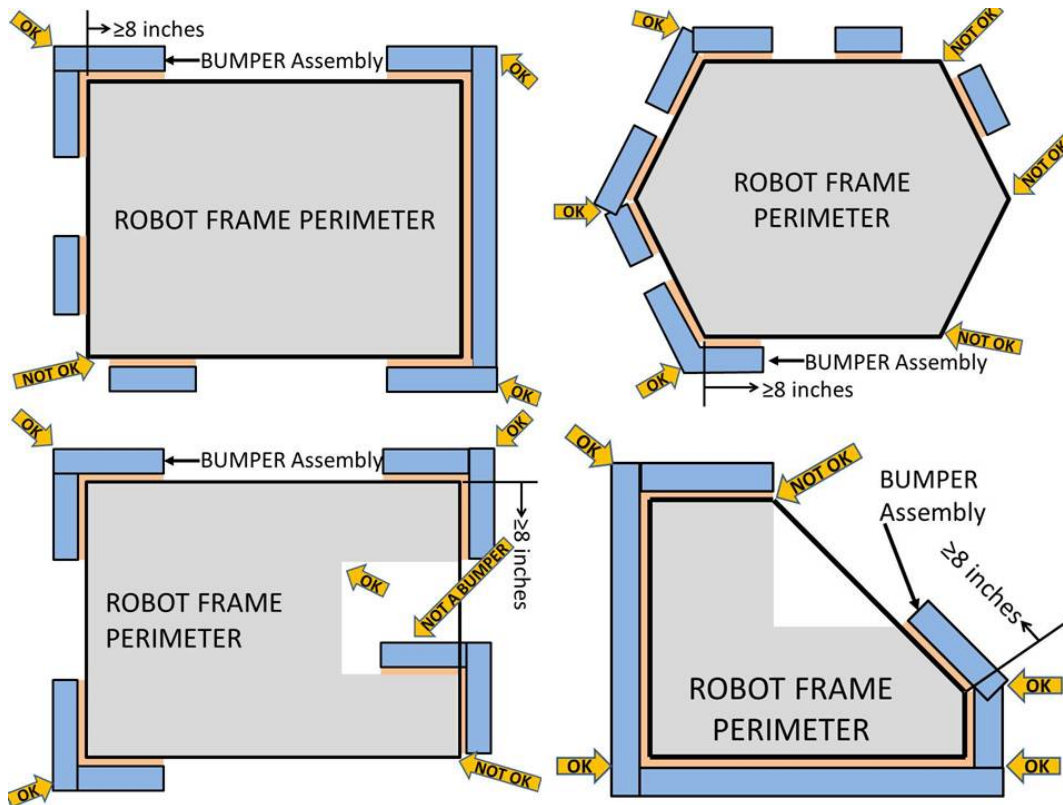
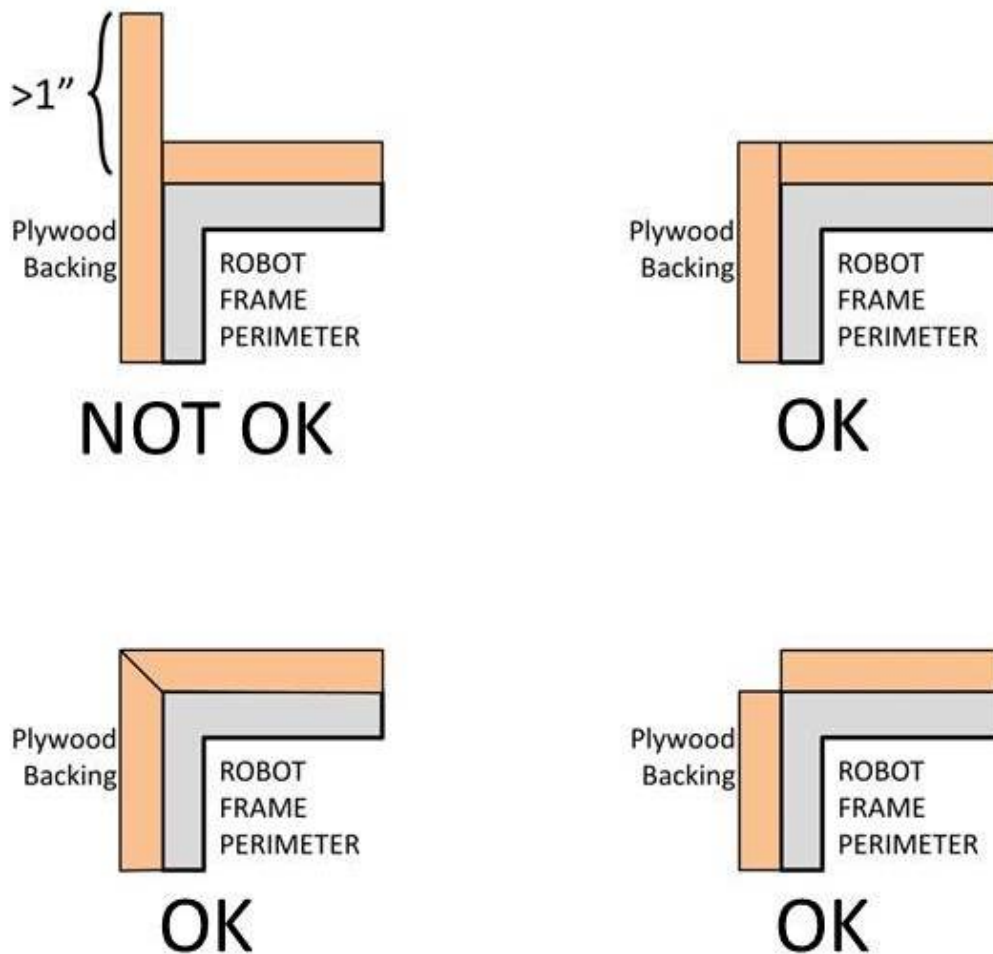
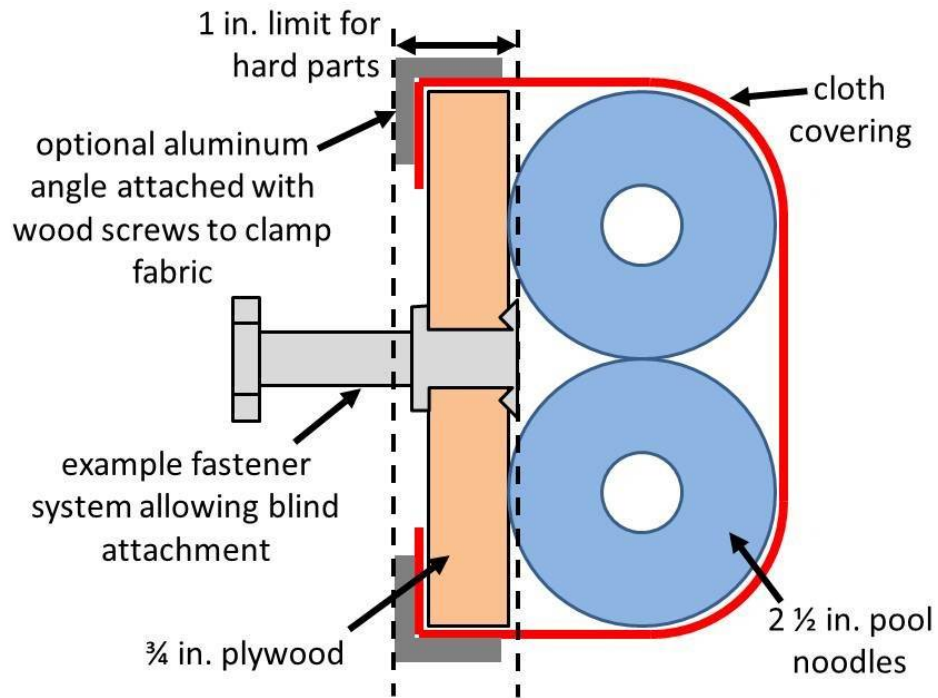

Figure 4-2: BUMPER Corner Examples
Figure 4-3: Hard Parts of BUMPER Corners
Figure 4-4: BUMPER Cross Section
ROBOTS are required to use BUMPERS to protect all outside corners of the FRAME PERIMETER. For adequate protection, at least 8 in. of BUMPER must be placed on each side of each outside corner (see Figure 4-2).
BUMPERS must be constructed as follows (see Figure 4-4):
B. hard BUMPER parts (e.g. plywood, fasteners, etc) may not extend more than 1 in. beyond the end of the FRAME PERIMETER (see Figure 4-3 and Figure 4-4).
- C. use a stacked pair of approximately 2 ½ in. round, petal, or hex “pool noodles” (solid or hollow) as the BUMPER cushion material (see Figure 4-4). Cushion material may extend up to 2 ½ in. beyond the end of the plywood (see Figure 4-2).